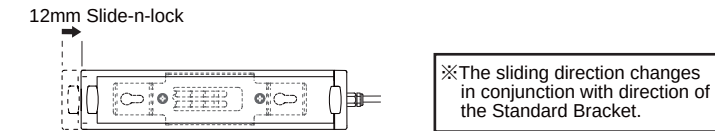

Figure 3. Standard Bracket Mounting
① Ensure the Standard Bracket is attached to a flat and sturdy surface before making any holes for installation. Using an M5 screw, 「Figure 6. AG Type Mounting Hole Dimensions -2」 and 「Figure 3. Standard Bracket Mounting」 to mount in place. Tighten the M5 screw with a torque of about 2.8 N·m.
② After attaching the Standard Bracket, the Body is attached. Insert the "Bracket Hook" in the back of the Main Unit and insert it into the "Slide-n-lock" holes of the bracket, then slide the Main Unit until the "Locking Hole" of the Main Unit is aligned with the "M3 tapping" for the Standard Bracket.
③ Use the "M3 tapping" Hex Socket Bolt to lock the Standard Bracket into place. This prevents the Body from unattaching from the Standard Bracket. Tighten with a torque of about 0.6 N·m.
① Mounting Hole Dimensions and Standard Bracket Mounting (Recommended)